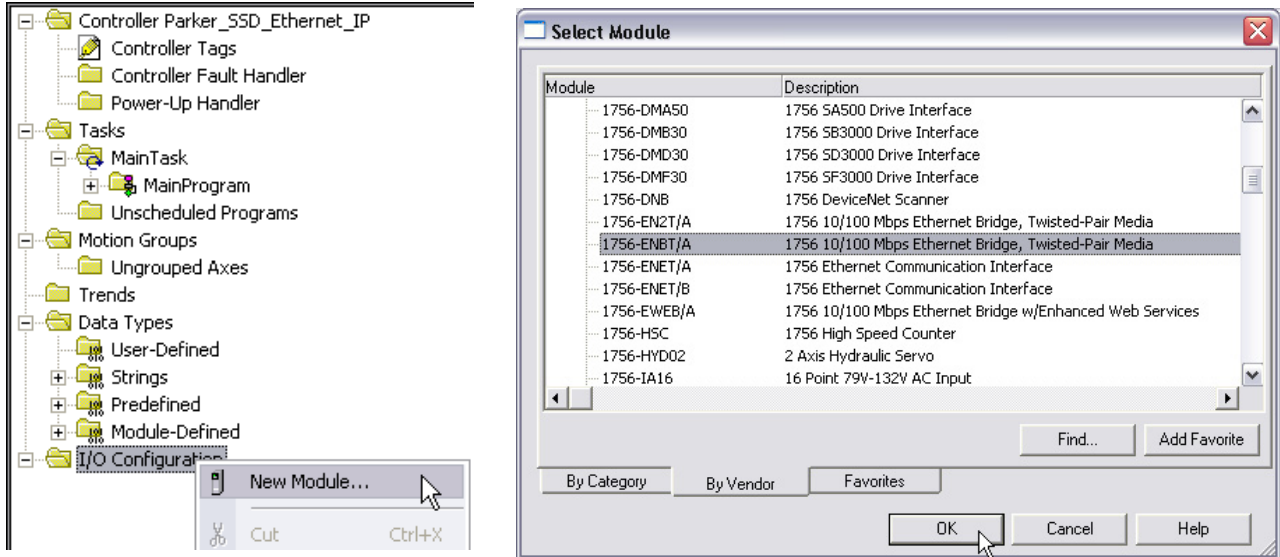

Figure 17. Ethernet Interface Selection
10. Using the I/O Configuration insert the Ethernet interface that will be installed. Right click on the I/O Configuration, select New Module. Our example uses 1756-ENBT/A. Input the desired IP address and slot in the PLC. Refer to Figures 17 and 18.